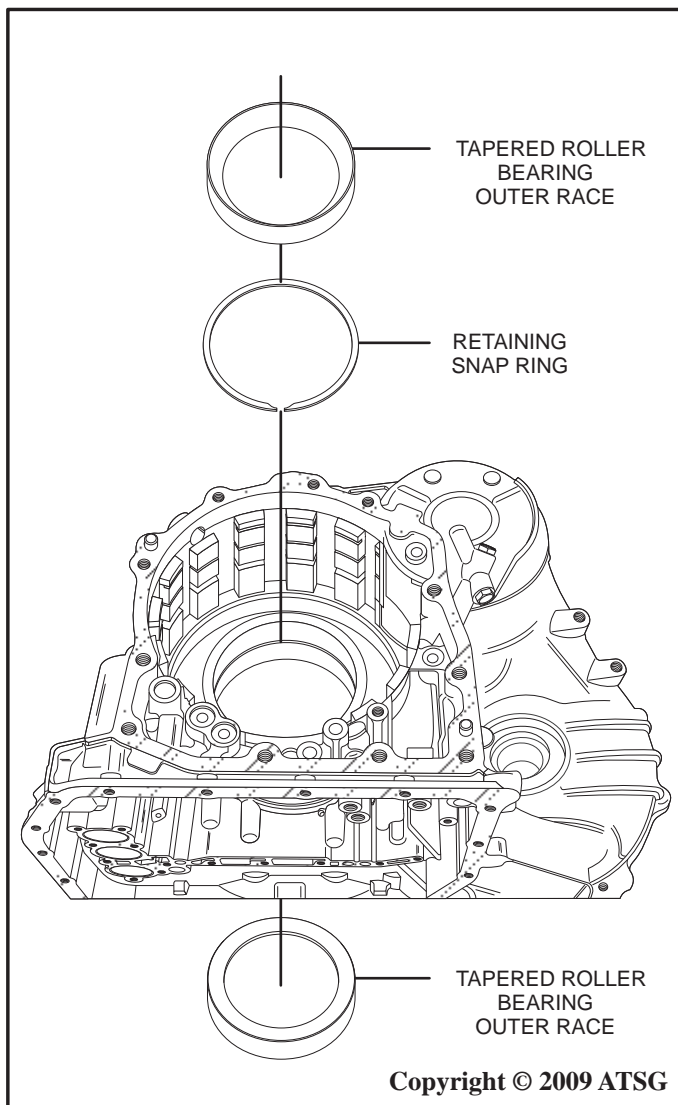

Figure 143
2. Install the snap ring into the snap ring groove in the case as shown in Figure 143.
3. Using SST 09950-60020 (09951-00890), 09950-70010 (09951-07150) or other suitable tool, press the tapered roller bearing outer races into the case until they both make contact with the snap ring as shown in Figure 143.